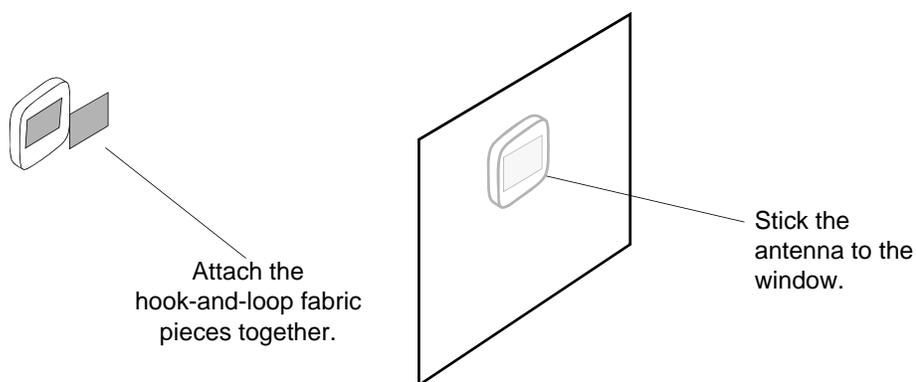

Figure 3-6 Attaching the Self-Adhesive Window Antenna to a Window
1.	Peel off the backing of one of the self-adhesive hook-and-loop strips and stick the strip to the antenna (Figure 3-6).